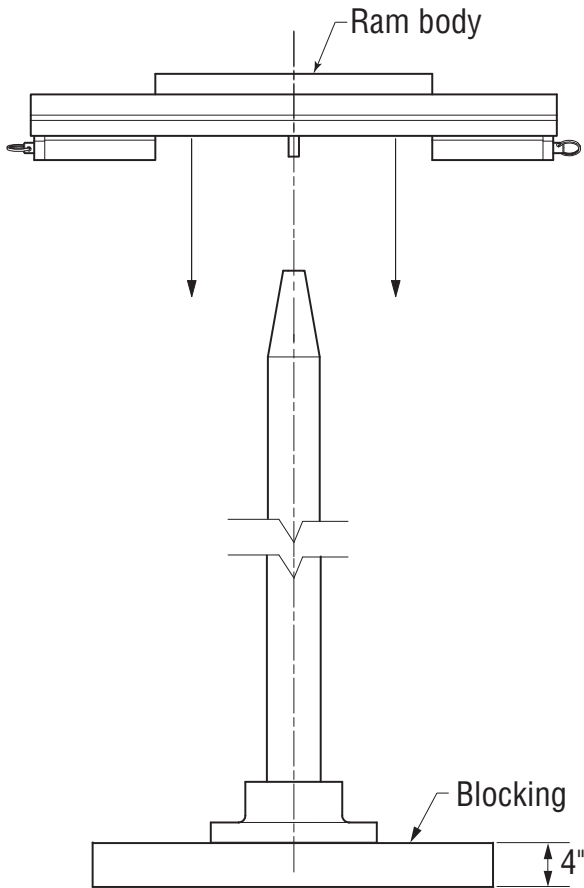

Figure 5-2, Ram Body Installation
1. Position the detachable ram vertically with the flange supported on 4" thick blocking. (Figure 5-2)
4. Lower body onto flange and align the mounting holes. Remove the lifting eyes. (Figure 5-2)